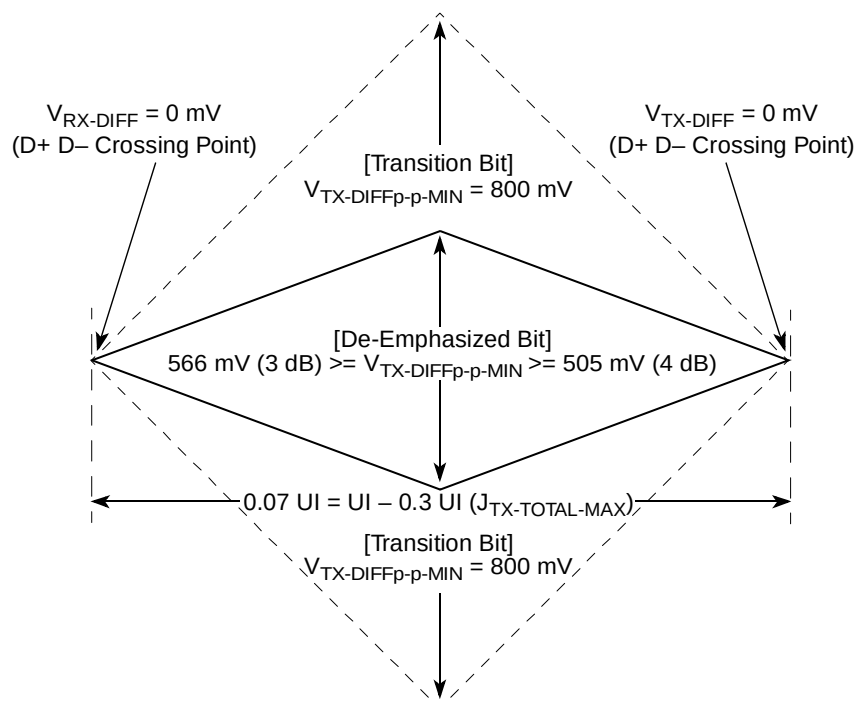
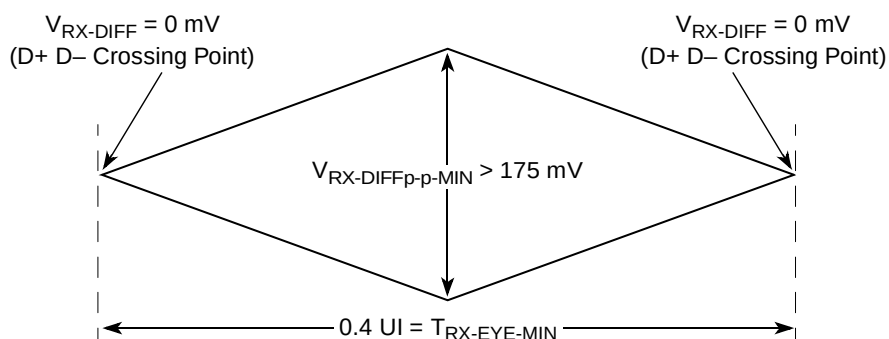
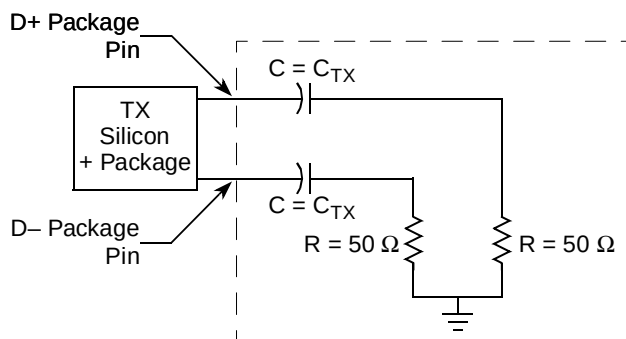

Figure 48. Minimum Transmitter Timing and Voltage Output Compliance Specifications
Figure 49. Minimum Receiver Eye Timing and Voltage Compliance Specification
Figure 50. Compliance Test/Measurement Load
2. Specified at the measurement point into a timing and voltage compliance test load as shown in Figure 50 and measured over any 250 consecutive TX UIs. (Also refer to the transmitter compliance eye diagram shown in Figure 48.)
4. The transmitter input impedance shall result in a differential return loss greater than or equal to 12 dB and a common mode return loss greater than or equal to 6 dB over a frequency range of 50 MHz to 1.25 GHz. This input impedance requirement applies to all valid input levels. The reference impedance for return loss measurements is 50 Ω to ground for both the D+ and D– line (that is, as measured by a vector network analyzer with 50- Ω probes—see Figure 50). Note that the series capacitors C_{TX} is optional for the return loss measurement.
5. Measured between 20%–80% at transmitter package pins into a test load as shown in Figure 50 for both $V_{\text{TX-D+}}$ and $V_{\text{TX-D-}}$.
The TX eye diagram in Figure 48 is specified using the passive compliance/test measurement load (see Figure 50) in place of any real PCI Express interconnect +RX component.
2. Specified at the measurement point and measured over any 250 consecutive UIs. The test load in Figure 50 should be used as the RX device when taking measurements (also refer to the receiver compliance eye diagram shown in Figure 49). If the clocks to the RX and TX are not derived from the same reference clock, the TX UI recovered from 3500 consecutive UI must be used as a reference for the eye diagram.
4. The receiver input impedance shall result in a differential return loss greater than or equal to 15 dB with the D+ line biased to 300 mV and the D– line biased to –300 mV and a common mode return loss greater than or equal to 6 dB (no bias required) over a frequency range of 50 MHz to 1.25 GHz. This input impedance requirement applies to all valid input levels. The reference impedance for return loss measurements for is 50 Ω to ground for both the D+ and D– line (that is, as measured by a vector network analyzer with 50- Ω probes—see Figure 50). Note: that the series capacitors CTX is optional for the return loss measurement.
The RX eye diagram in Figure 49 is specified using the passive compliance/test measurement load (see Figure 50) in place of any real PCI Express RX component.
Note: In general, the minimum receiver eye diagram measured with the compliance/test measurement load (see Figure 50) will be larger than the minimum receiver eye diagram measured over a range of systems at the input receiver of any real PCI Express component. The degraded eye diagram at the input receiver is due to traces internal to the package as well as silicon parasitic characteristics which cause the real PCI Express component to vary in impedance from the compliance/test measurement load. The input receiver eye diagram is implementation specific and is not specified. RX component designer should provide additional margin to adequately compensate for the degraded minimum receiver eye diagram (shown in Figure 49) expected at the input receiver based on some adequate combination of system simulations and the return loss measured looking into the RX package and silicon. The RX eye diagram must be aligned in time using the jitter median to locate the center of the eye diagram.
The reference impedance for return loss measurements is 50. to ground for both the D+ and D– line (that is, as measured by a vector network analyzer with 50-Ω probes—see Figure 50). Note that the series capacitors, CTX, are optional for the return loss measurement.
The AC timing and voltage parameters must be verified at the measurement point, as specified within 0.2 inches of the package pins, into a test/measurement load shown in Figure 50.